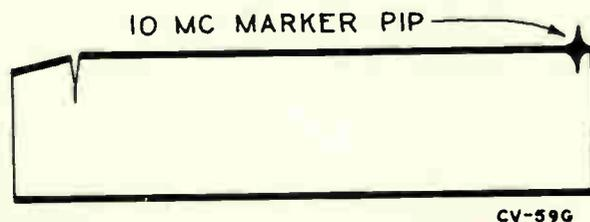

Figure 12—Response Curve for 10-Mc Bandwidth
Sweep Output Bandwidth Adjustment — Normally, the instrument is preset at the factory for a swept bandwidth of 10 megacycles. To obtain this bandwidth, the sweep oscillator is adjusted to sweep a band of frequencies from 70 to 80 mc (approx.) and the oscillator doubler is adjusted to produce a c-w output of approximately 70 mc. Figure 12 illustrates the pattern of the output signal as seen on an oscilloscope when the instrument is properly adjusted for a 10-mc bandwidth. If the 10-mc marker does not fall near the right-hand side of the trace, or if the zero-frequency beat does not fall near the left-hand side of the trace, the following adjustments should be made:
8. Adjust the SWEEP WIDTH control on the rear apron until the 10-mc marker rests near the right-hand side of the sweep. This adjustment may necessitate resetting the zero-frequency beat to the left-hand side of the trace by adjusting L17. These two adjustments (L17 and SWEEP WIDTH) must be made alternately until the zero-frequency beat rests near the left-hand side of the trace, and the 10-mc marker pip rests near the right-hand side (see Figure 12).